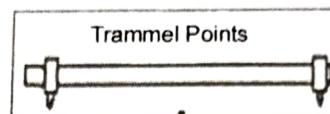

Fig. 5.
6. Trammel Points: consist of a bar with two movable heads. It is used to draw large circles or arcs that are beyond the limit of the dividers Fig. 5.